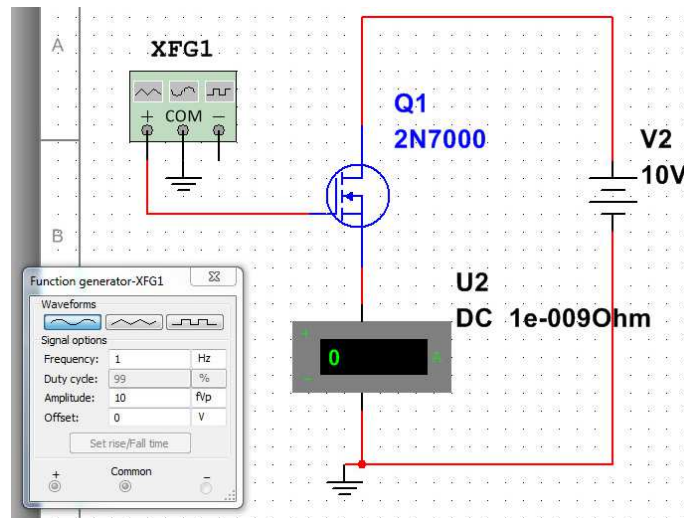

FIGURE 2 –
2. Build the circuit of figure 2.